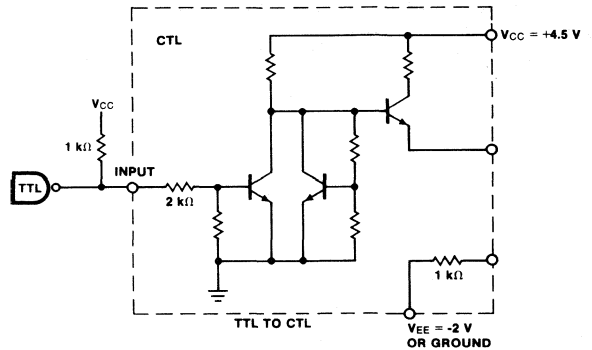
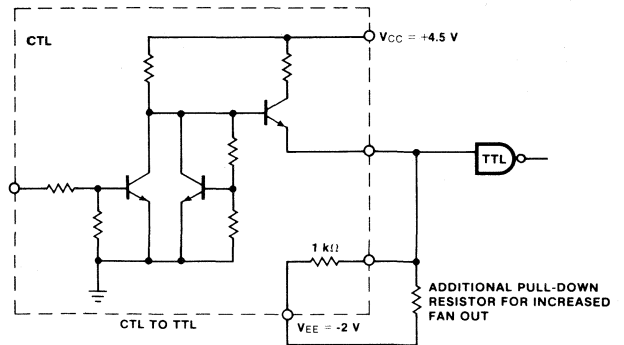

Fig. 2-29 TTL to CTL Conversion
Fig. 2-30 CTL to TTL Conversion
Interfacing TTL and CTL — CTL (Complementary Transistor Logic) is a family of high speed digital circuits used mainly in computers. It uses AND gates and wired-OR outputs for logic flexibility, but logic levels are not restored in each gate. Level restoring buffers (956) are therefore required, and all interfacing should be done with restored logic levels. The CTL input threshold is ≈ 1 V, similar to TTL, but 1.0 mA to 2.0 mA are required to pull the CTL input reliably over the threshold. A normal TTL output can drive a CTL input, but noise immunity is improved considerably by a 1 k Ω pull-up resistor (*Figure 2-29*). The CTL output emitter follower can source >30 mA but cannot sink current. A resistive termination is therefore required. When the resistor is returned to ground, it may not exceed 250 Ω to guarantee a V_{OL} of < 400 mV at a fan-out of 1 U.L. A better, less power consuming way for a fan-out of 1 U.L. is to use the built-in pull-down resistor (1 k Ω to -2.0 V). For increased fan-out, this resistor can be reduced by a parallel external resistor to 180 Ω (8 U.L.), as indicated in *Figure 2-30*.